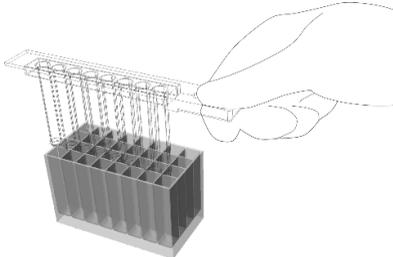

Figure 14. Mixing of content in **column 1** using the rod cover only.
5. Using only the rod cover, mix the contents of **column 1** by slowly lifting the rod cover to the top of the solution and returning the rod cover to the bottom of the wells. Continue to mix the contents 4 times per minute for 15 minutes (Figure 14).